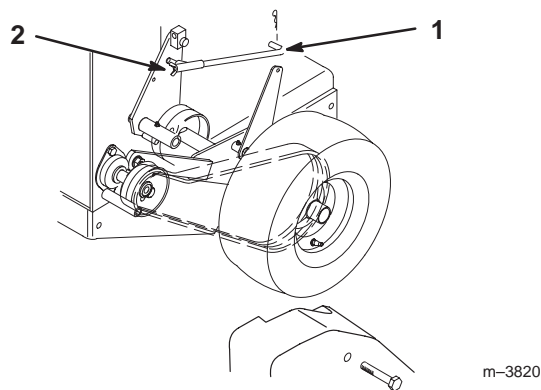

Figure 40
4. To adjust brake set the parking brake latch, and rotate the wing nuts on the brake rods (Fig. 40). Clockwise to tighten the brake and counterclockwise to loosen the brake.